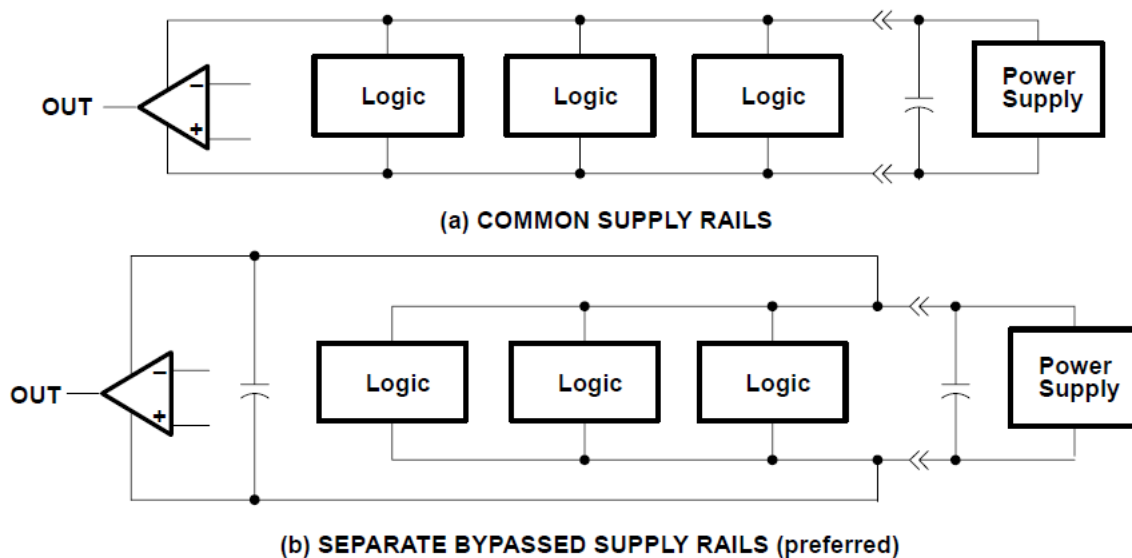

Figure 6-3. Common vs Separate Supply Rails
1. Power the linear devices from separate bypassed supply lines (see Figure 6-3); otherwise, the linear device supply rails can fluctuate due to voltage drops caused by high switching currents in the digital logic.